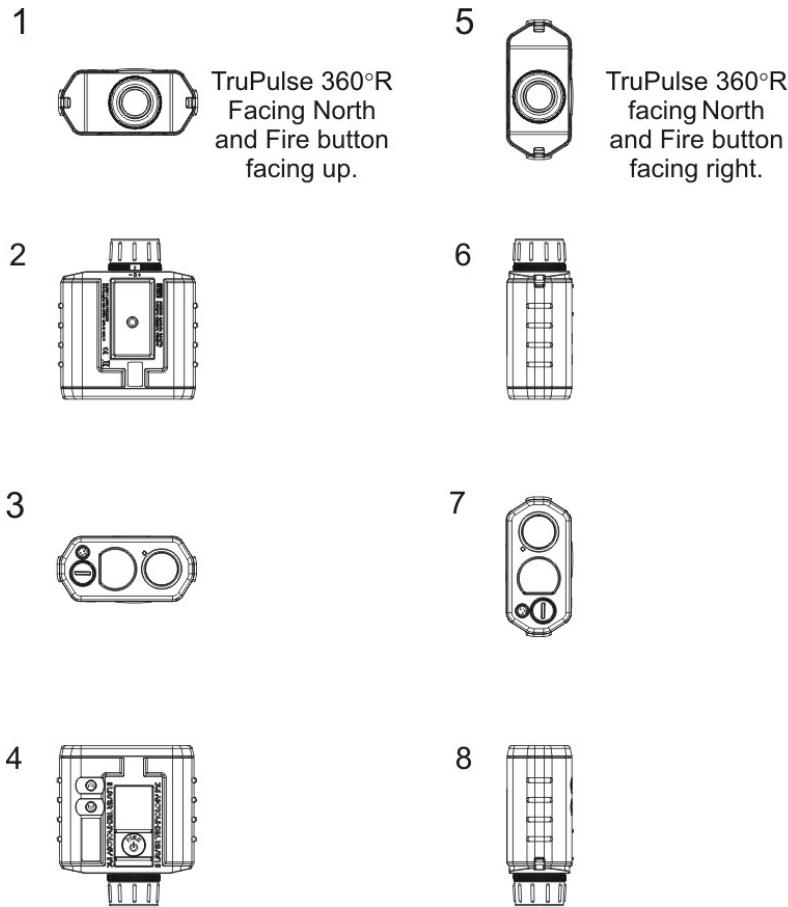

Figure 5. The TruPulse compass calibration routine.
3. Press ▼ until **inC** is displayed in the viewfinder, then press “Power/Fire” (Figure 5).